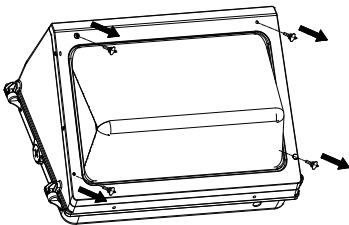

figure 6
1. Remove the 4pcs drain plugs from the housing. (figure 6)